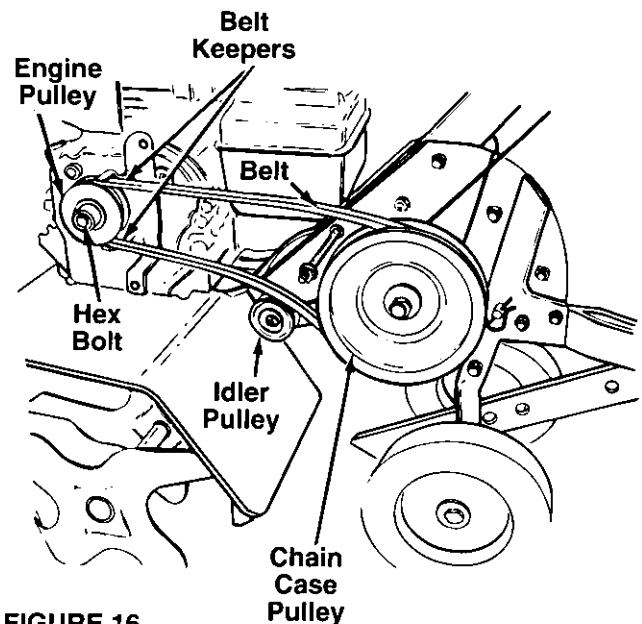

FIGURE 16.
4. Loosen the hex bolt which secures the engine pulley. See figure 16. Slide the pulley half out from between the belt keepers. Remove the belt.
NOTE: Upon reassembly, make certain the belt is routed in between the belt keepers at the engine pulley, and over the idler pulley as shown in figure 16.